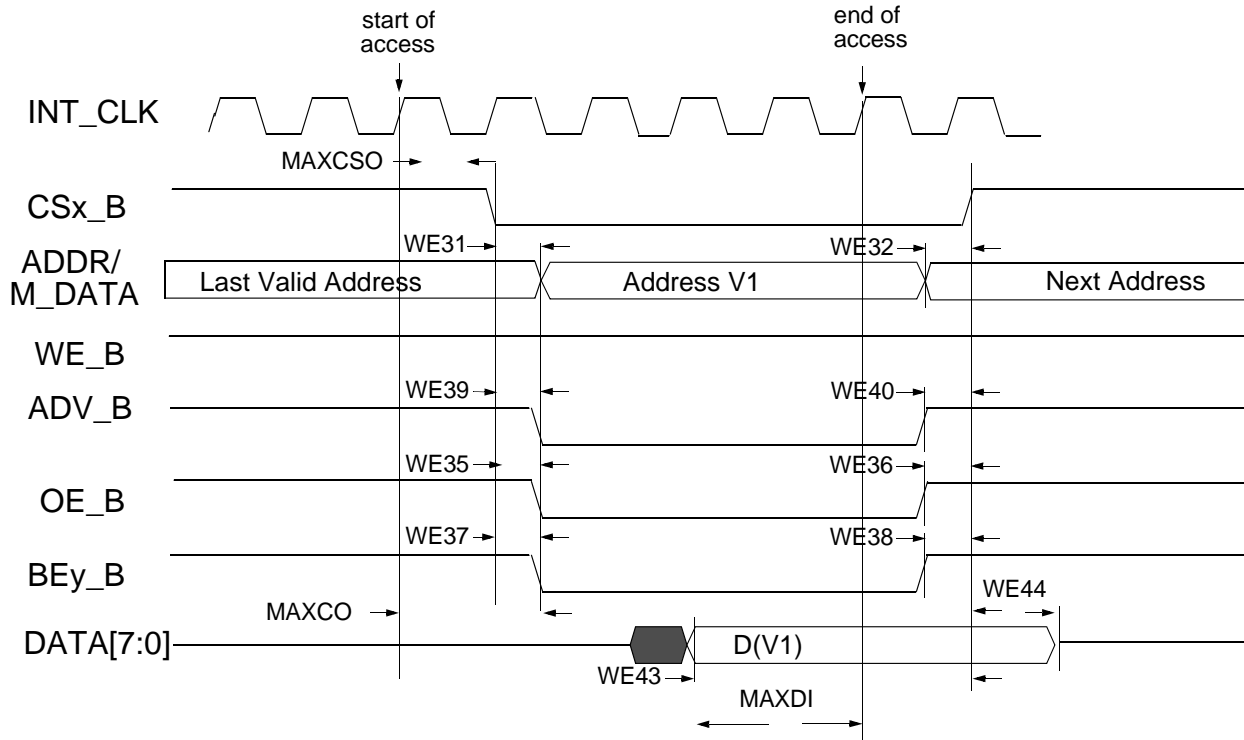
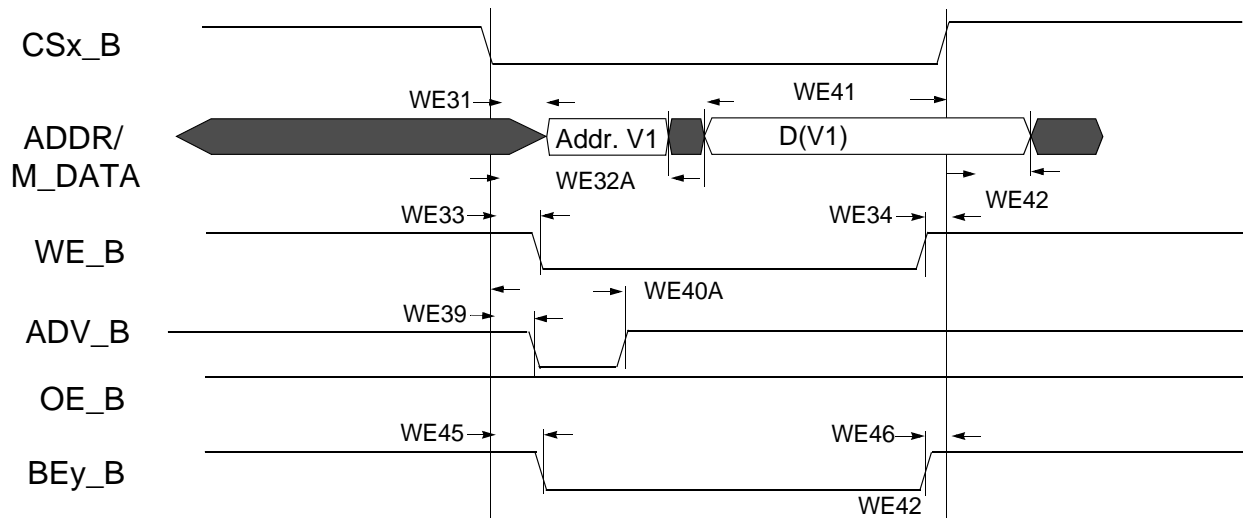
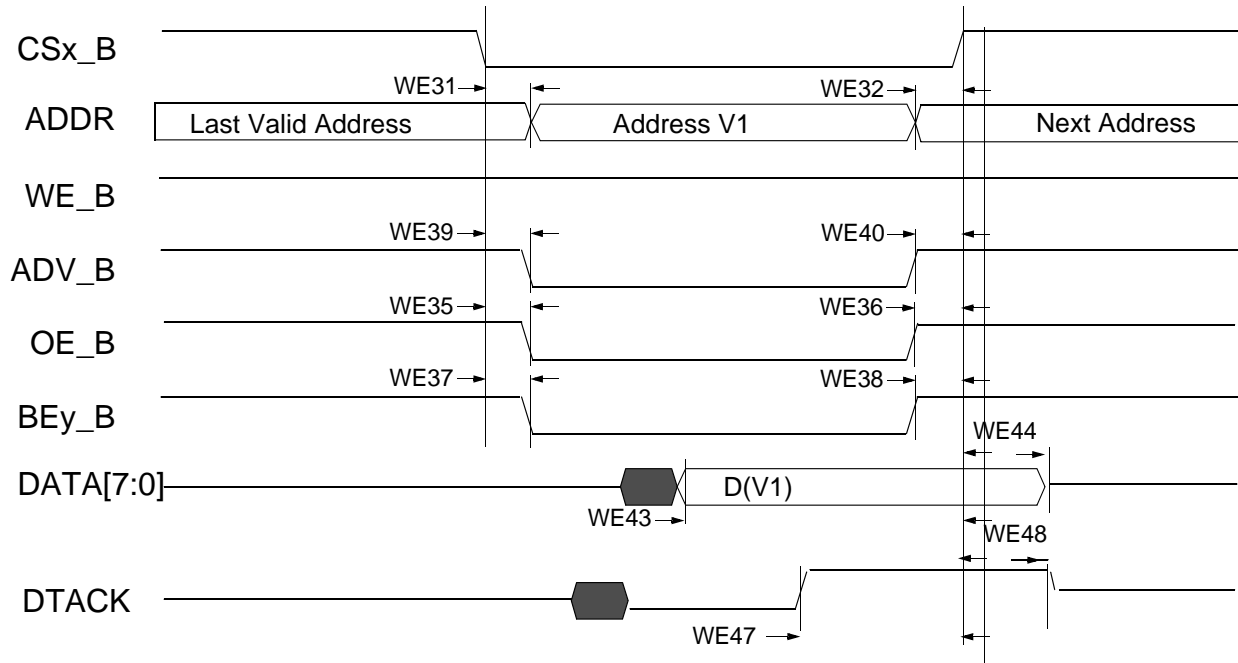

Figure 22. Asynchronous Memory Read Access (RWSC = 5, OEN=CSN=0)
Figure 25. Asynchronous A/D Muxed Write Access (RWSC = 5, OEN=CSN=0)
Figure 26. DTACK Read Access(DAP=0)
Figure 22 through Figure 26, and Table 39 help to determine timing parameters relative to the chip select (CS) state for asynchronous and DTACK EIM accesses with corresponding EIM bit fields and the timing parameters mentioned above.
Asynchronous read & write access length in cycles may vary from what is shown in Figure 22 through Figure 25 as RWSC, OEN & CSN is configured differently. See i.MX53xA RM for the EIM programming model.